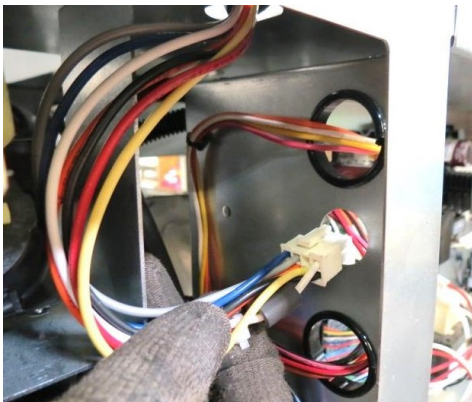

Figure 19
12. Feed one or two tumble dryer harnesses out of side of control box. Refer to *Figure 19*.